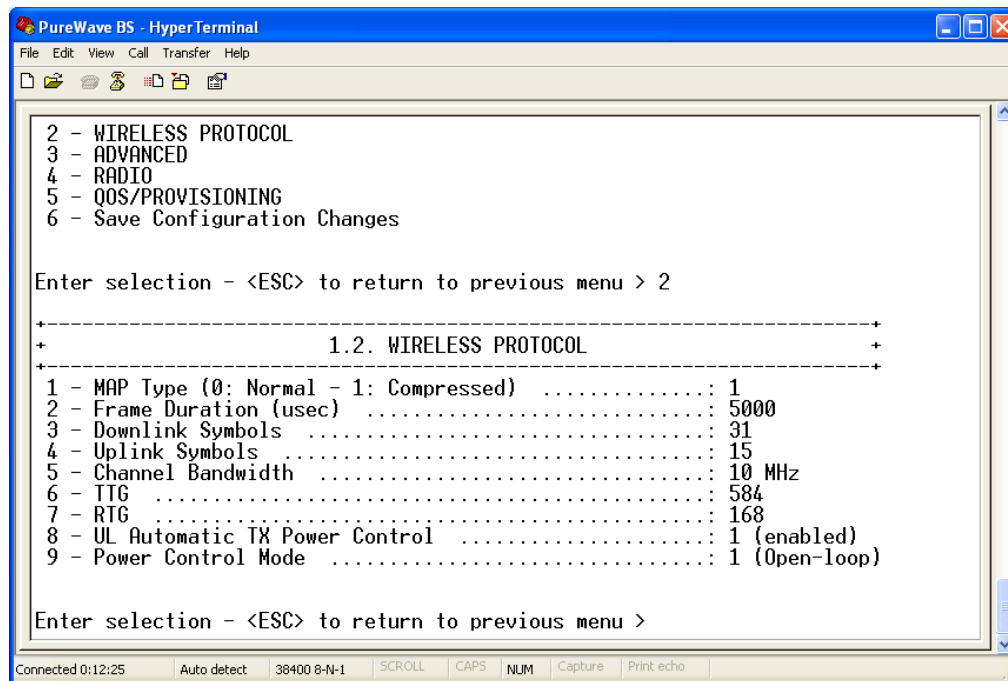

Figure 62 - Base Station CLI IP Wireless Protocol Check
- 6) Select 2 (*WIRELESS PROTOCOL*) from the *1.1 BASIC CONFIGURATION* menu and verify the following two settings (figure 62). You cannot change the variables so this is simply for verification purposes.